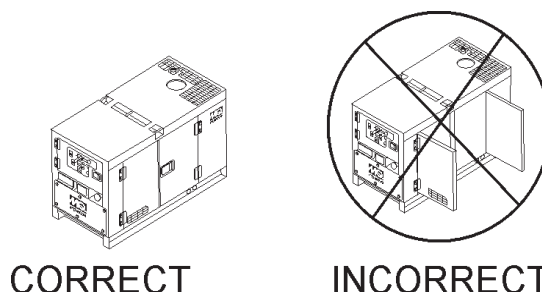

Figure 47. Engine Enclosure Doors
4. Close all engine enclosure doors (Figure 47).